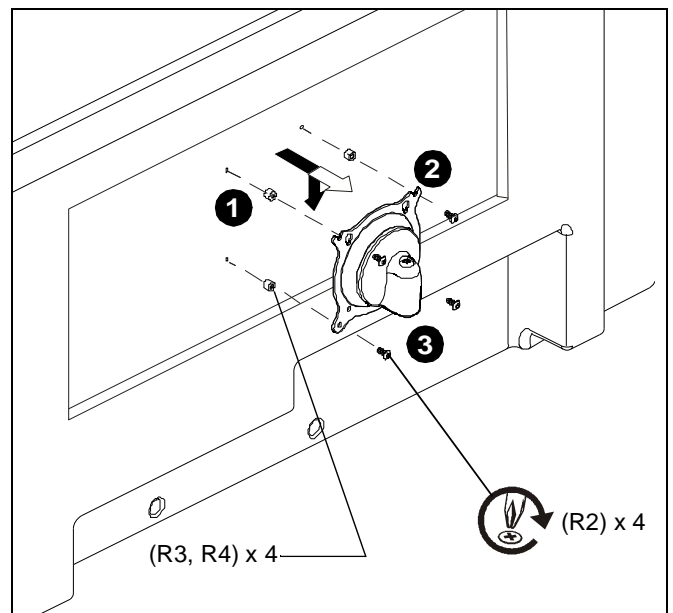

Figure 6
1. Place four spacers (R3, R4) over each mounting hole in display back. (See Figure 6)
2. Align teardrop mounting holes in faceplate with holes in spacers (R3, R4). (See Figure 6)
3. Install four Phillips pan head screws (R2) through faceplate and spacers (R3, R4) and into mounting holes in back of display. (See Figure 6)